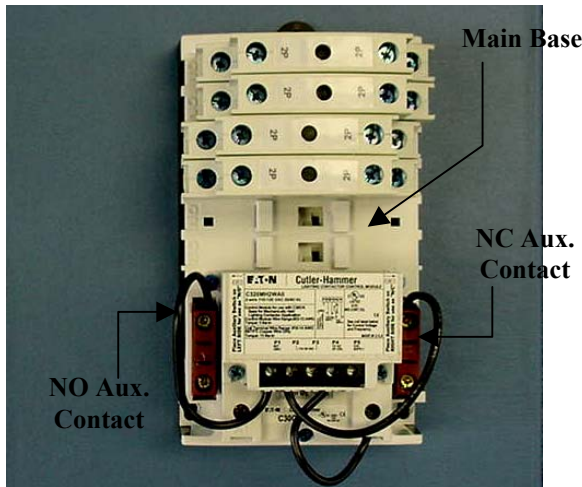

Figure 1: Mechanically Held Contactor
The base of the lighting contactor (see Figure 1) has provisions to accept power poles at positions “1” to “6”. Provisions are also provided for up to 2 “NO” and 2 “NC” auxiliary contacts.
The auxiliary contact blocks are available in both single pole (C320AMH1) and double pole (C320AMH2) versions. Auxiliary contacts can be added on either side of the base (see Figure 1). When added to the LEFT side of base, the auxiliary block functions as “NO”, and when added to the RIGHT side of base it functions as “NC”. Refer to section 4.3 for wiring.
1. Disconnect all power and mount the control module on the contactor as shown in Figure 1 (3-wire control type).